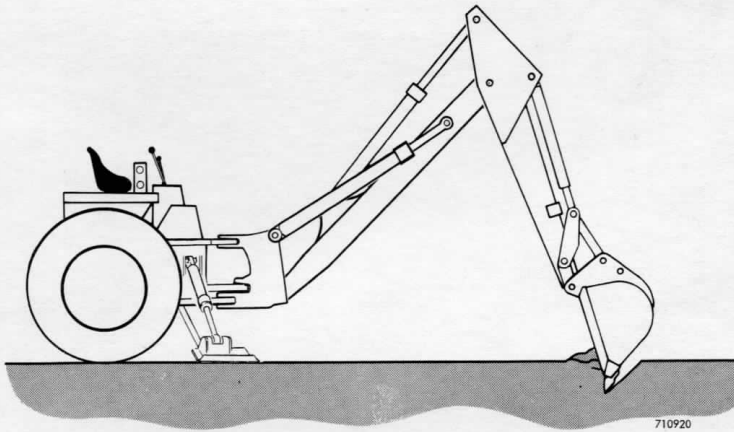

Figure 31 - Backhoe Position For Dig
2. Position the backhoe as shown in Figure 31. It is important that the backhoe be in a good digging attitude before starting each cycle. Experience will be required to learn the best possible digging attitude for your machine and soil conditions. If the backhoe is not positioned properly, the cut may be too shallow or the Hydra-Guide may fail to function.